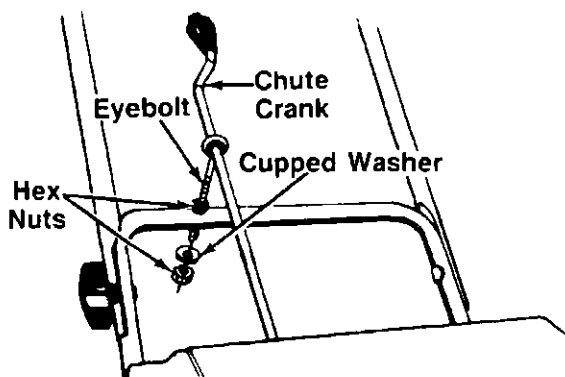

FIGURE 6.—Model 310193 Only
3. Slide the eyebolt onto the chute crank. Insert eyebolt into the hole in the lower handle as shown in figure 6.